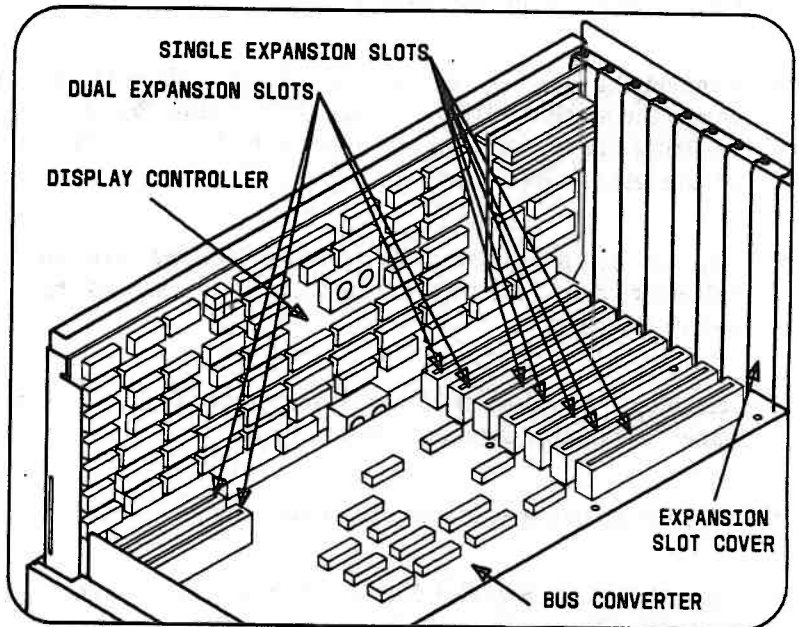

Figure 3-43. Single Connector Expansion Slots
22. Insert the HDU Controller Board into a single connector expansion slot (Figure 3-43).